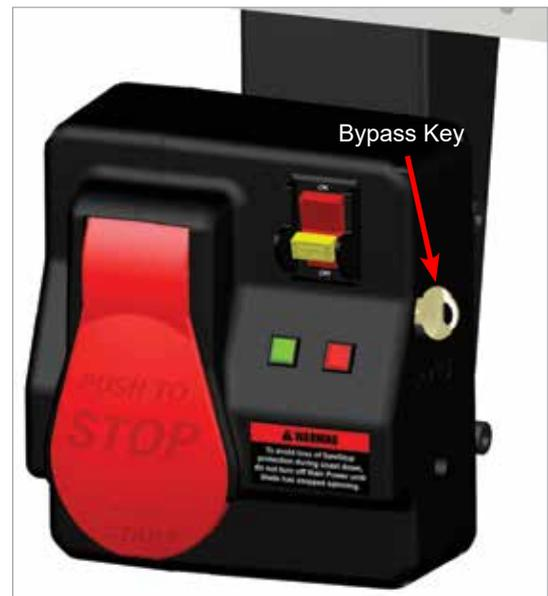

Fig. 81
- b. Turn the Bypass Key clockwise and hold it for at least 1 second (see Fig. 81). The green LED will begin blinking slowly and the red LED will flash once to let you know when the 1 second has elapsed.